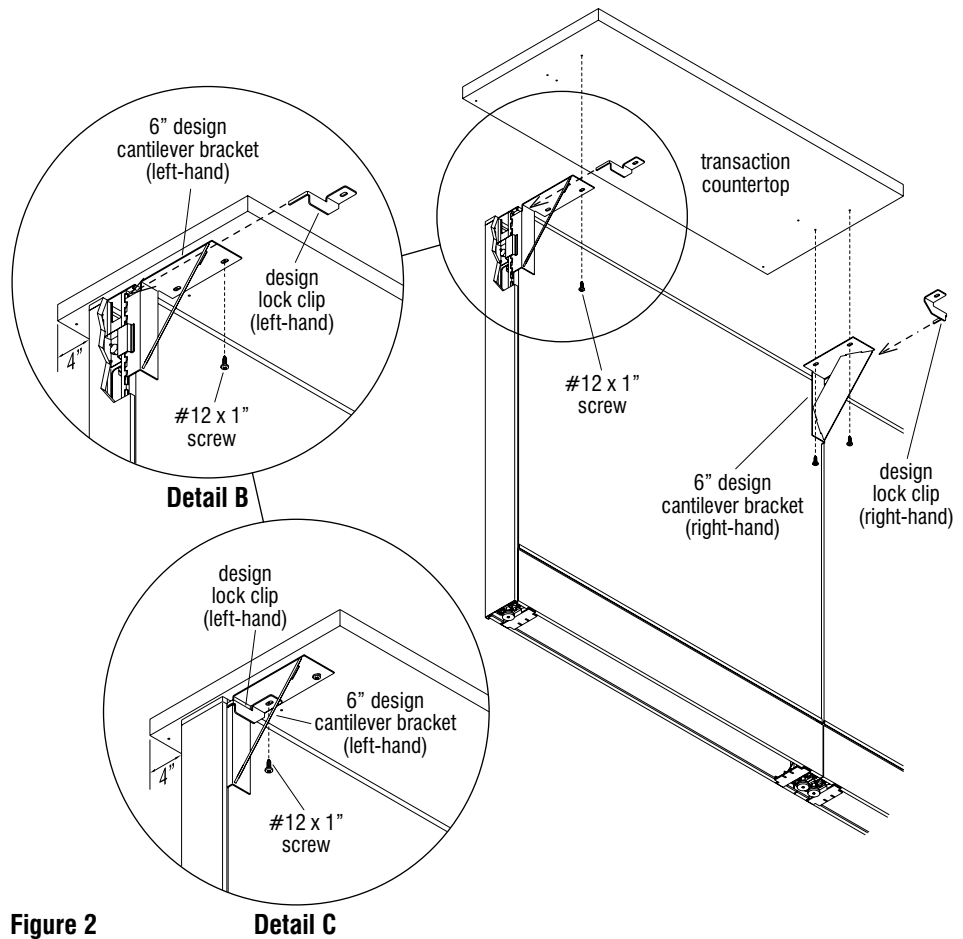

Figure 2
3. After the cantilever brackets have been installed to the workstation side of the panel, position the transaction countertop onto the brackets as illustrated, with the smaller, 4" countertop overhang into the aisle side. Align mounting holes of the brackets with the corresponding pre-drilled holes in the underside of the transaction countertop. Using one #12 x 1" screw per bracket, at the front side of the bracket (hole closest the worksurface user), secure the bracket to the transaction countertop as illustrated (Figure 2 and Detail B).
4. Position a design lock clip as illustrated (Detail B) and insert the thin prong end of the clip into the top panel notch, just above the top tooth of the left-hand design cantilever bracket. Fully inserted properly, the mounting hole of the lock clip will align over the unused mounting hole in the cantilever bracket. Insert and tighten the second #12 x 1" screw to secure the clip over the cantilever bracket, and to the transaction countertop (Figure 2 & Details B & C).
5. Repeat step 4 above for the right-hand design lock clip to the right-hand design cantilever bracket. Check and assure that all four mounting screws are tight. The transaction countertop must be snug and no movement should be felt (Figure 2 & Details B & C).